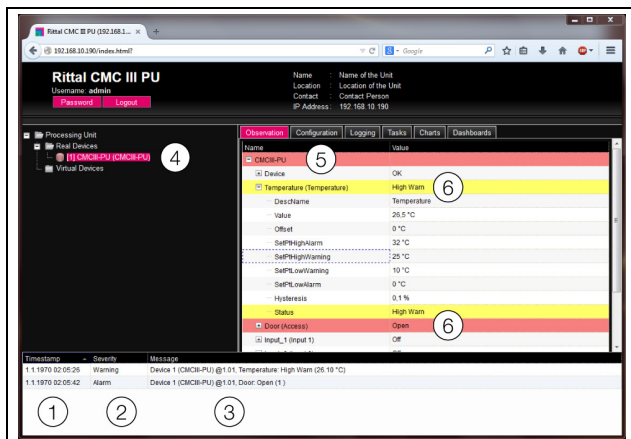

Fig. 30: Structure of the message display
1. Timestamp: Date and time when the error occurred (fig. 30, item 1).
2. Severity: The severity of the error that has occurred. A differentiation is made between warnings and alarms (fig. 30, item 2).
3. Message: Error message in plain text (fig. 30, item 3).
- Left-hand screen area (navigation area): The symbol in front of the component on which the error occurred is colour-highlighted (red for an alarm, yellow for a warning; fig. 30, item 4).
- Right-hand screen area (configuration area): The complete component as well as the special parameters for which the warning or alarm is pending is coloured red or yellow on the **Observation** tab (fig. 30, item 5 and 6).